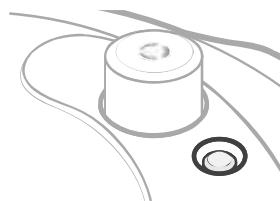

Figure 1.8
- The float valve indicates if there is pressure inside the cooker. Float valve down means there is no pressure inside. **[Figure 1.8]**